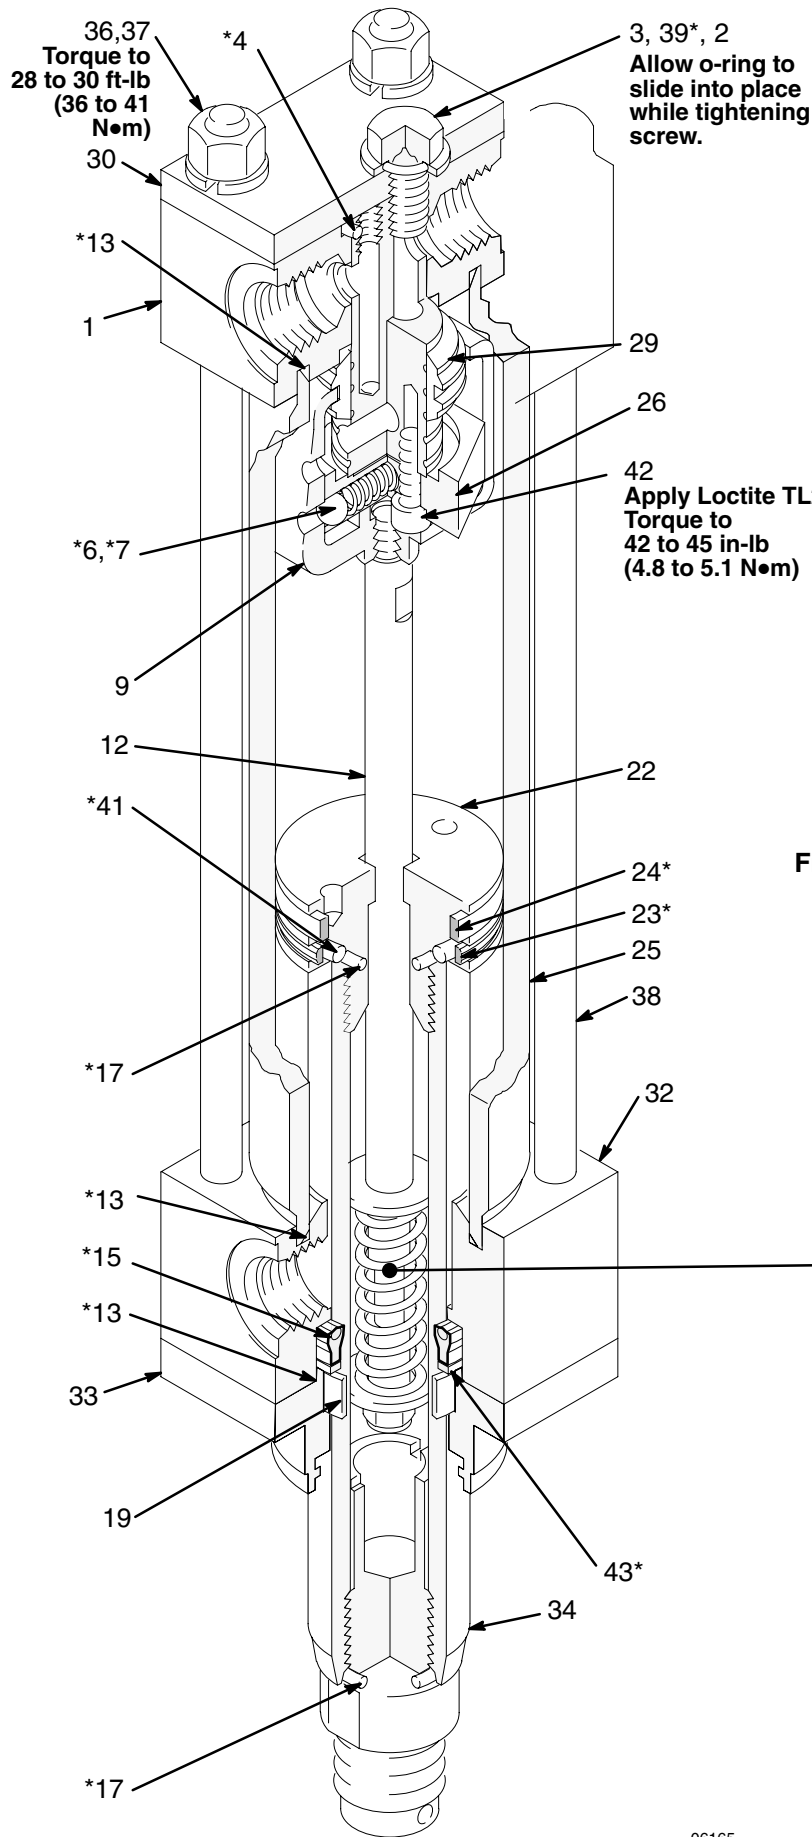

Fig. 4
Refer to Fig. 4 when you are doing steps 1 to 16.
7. Unscrew the nut (18) and remove the spring (21) from the stop rod (12). Install a new spring (21\*) and screw on the nut (18), adjusting the nut as shown in Detail A in Fig. 4.
9. Tap the housing retainer (33) with a plastic mallet to loosen it, and then pull it away from the lower cylinder cap (32).
**NOTE:** If any of these parts are being reused, use a surface cleaner such as chlorinated solvent on the threads and blow with compressed air. If needed, use a #10–24 UNC–2B tap to remove adhesive from the internal threads of the yoke (9).
21. Slide the lower cylinder cap (32) onto the displacement rod. See Fig. 4.
**NOTE:** When you reinstall the cylinder (25) (step 22), be sure the “P” port in the upper cylinder cap (1) and the port in the lower cylinder cap (32) are in line with each other. Be sure the o-rings (13\*) are in place in the cylinder caps.